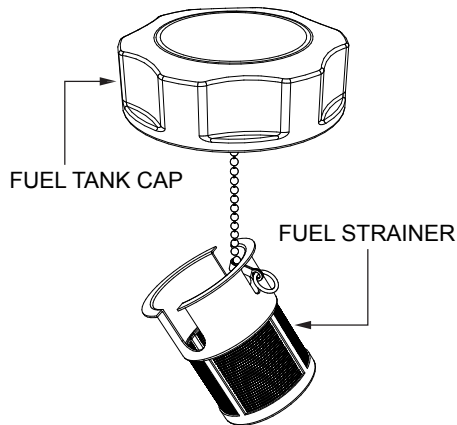

Figure 33. Fuel Strainer
3. Remove, inspect and clean the fuel strainer (Figure 33) with solvent.